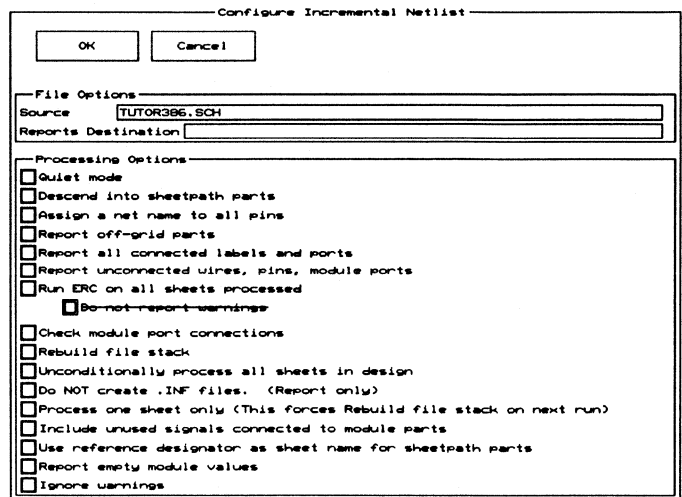

Figure 3-15. The *Configure Incremental Netlist* screen.
2. Select **Configure INET**. The **Configure Incremental Netlist** screen displays (figure 3-15).